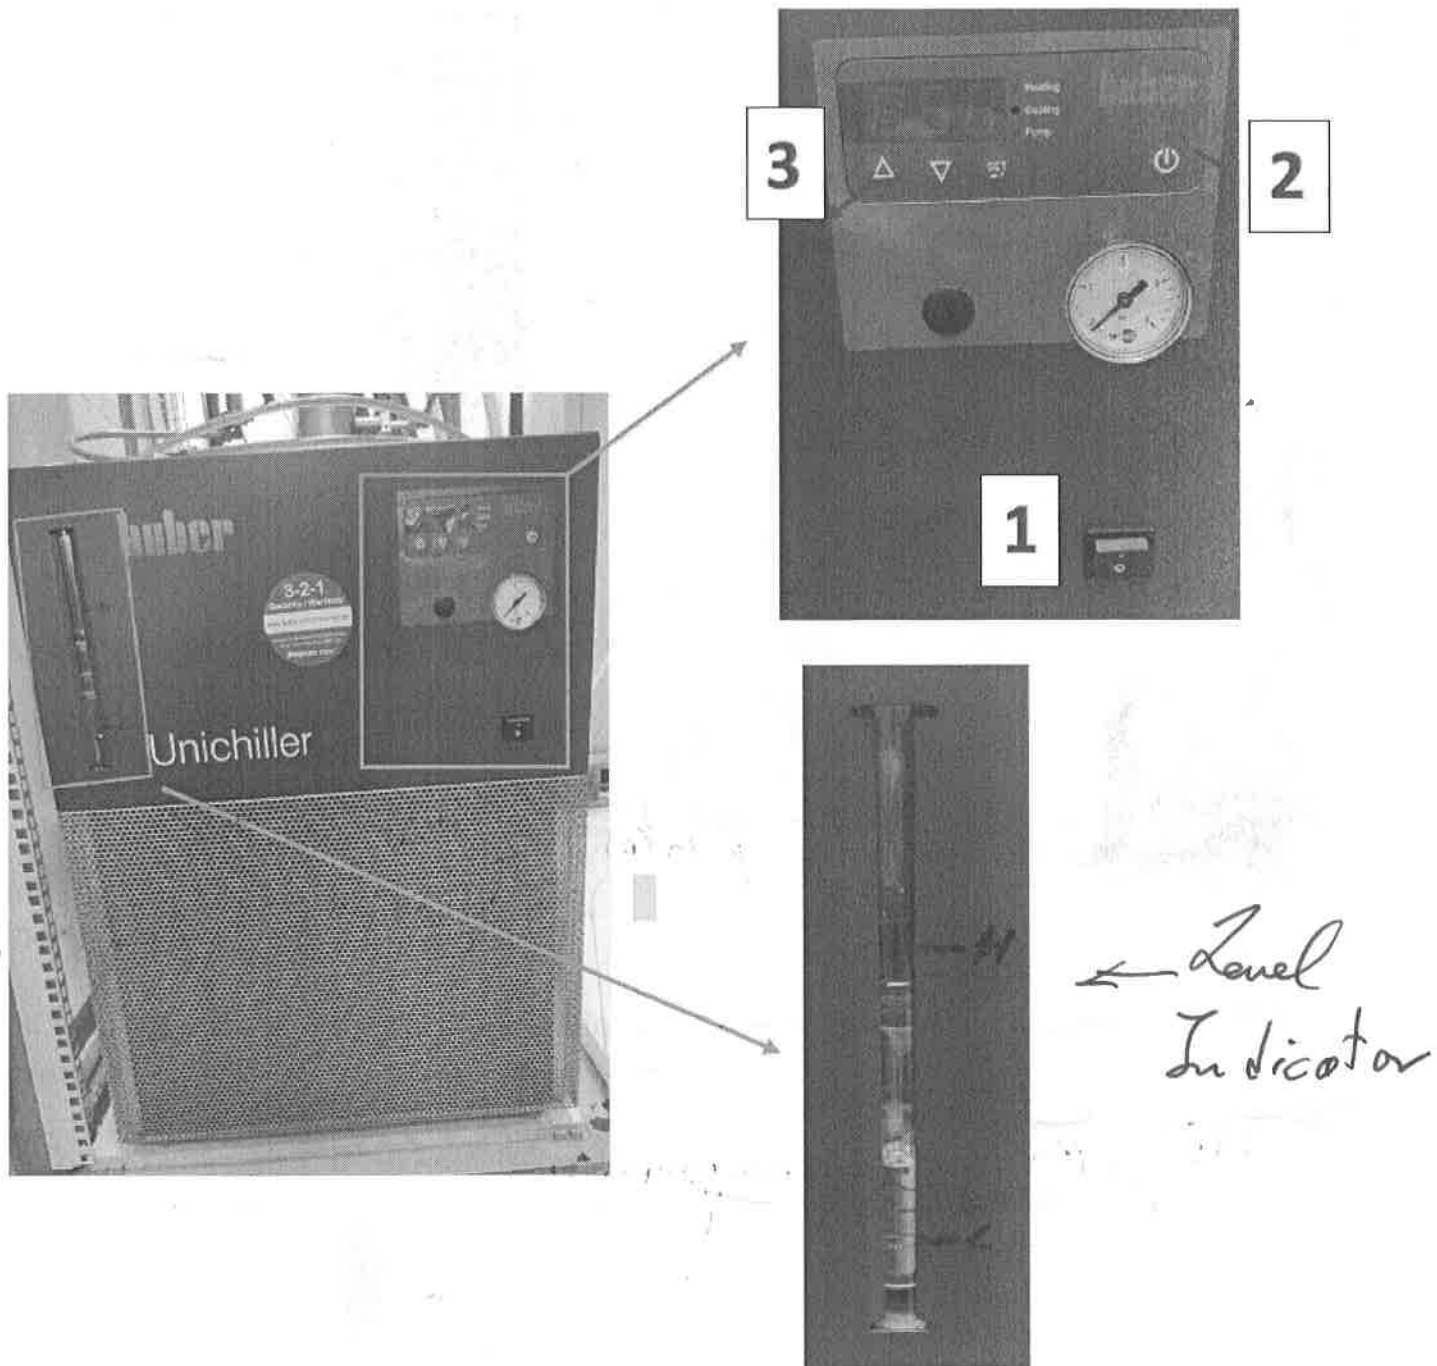

Figure 2
This unit is responsible of cooling the water, shown in Figure 2. Left.
- To switch on/off the chiller, there is 1/0 button (shown by number 1 in top right figure 2), then you need to press the power button (shown by number 2 in top right figure 2) for 5 sec to switch on the chiller.
- You can adjust the temperature of the water from 2 arrows up/down (shown by number 3 in top right figure 2), Normally we set the temperature at 17°C.
- You ~~can~~ ^{must} check the water level in the water tank inside the chiller from the glass window shown in Figure 2 right bottom ,
7. Switch on the chiller from on/off bottom as show in Figure 2 and then press on button for 2-3 seconds
9. Check the temperature on the chiller to be around 17 oC and if not just you can adjust by increase/decrease the temperature from the arrows shown in Figure 2 to reach 17 oC